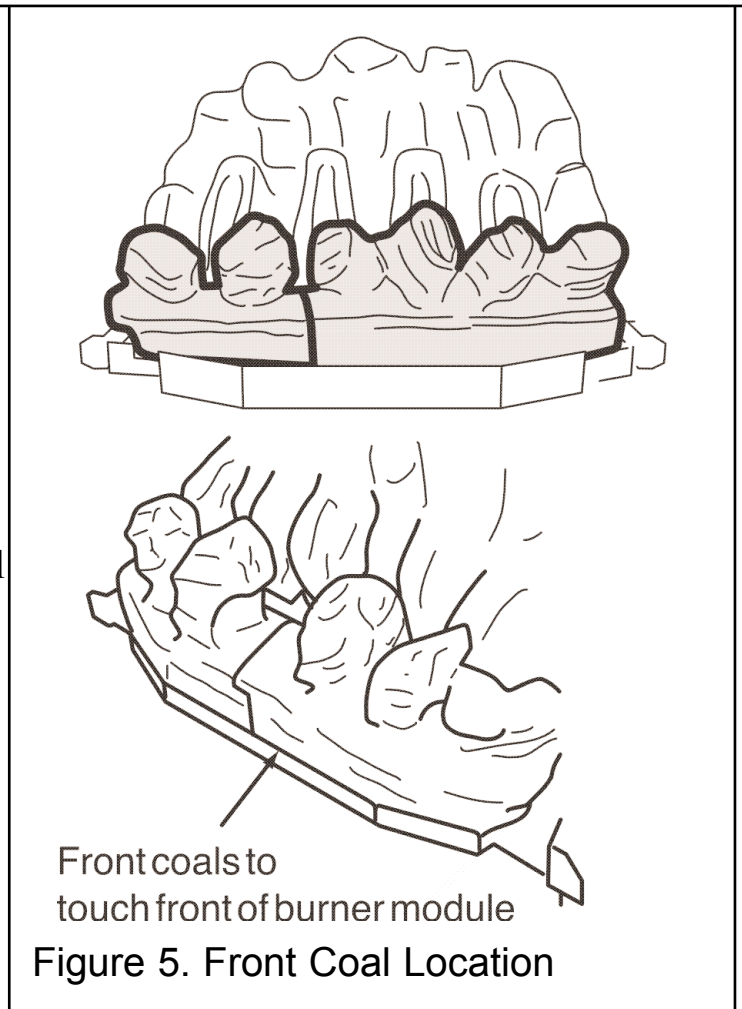

Figure 5. Front Coal Location
2. Place the left-hand ceramic front coal in position in front of the base coal (See figure 5).
3. Place the right hand ceramic front coal in position in front of the base coal. This should overlap the left-hand coal. Push the two sides together to minimise the gap. (See figure 5).